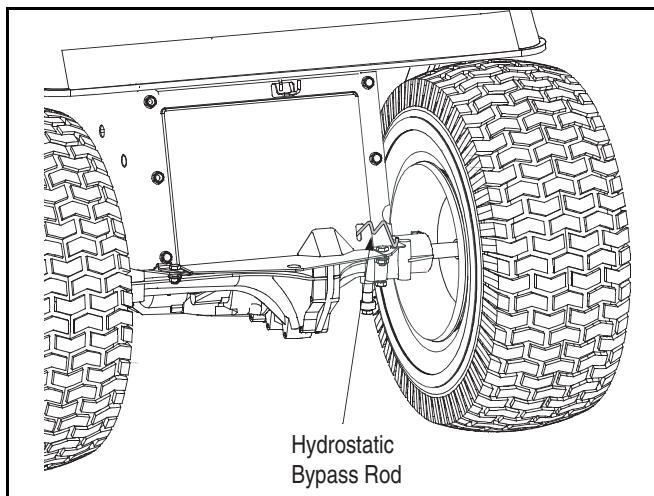

Figure 12
- Locate the hydrostatic bypass rod in the rear of the tractor. See Figure 12 .